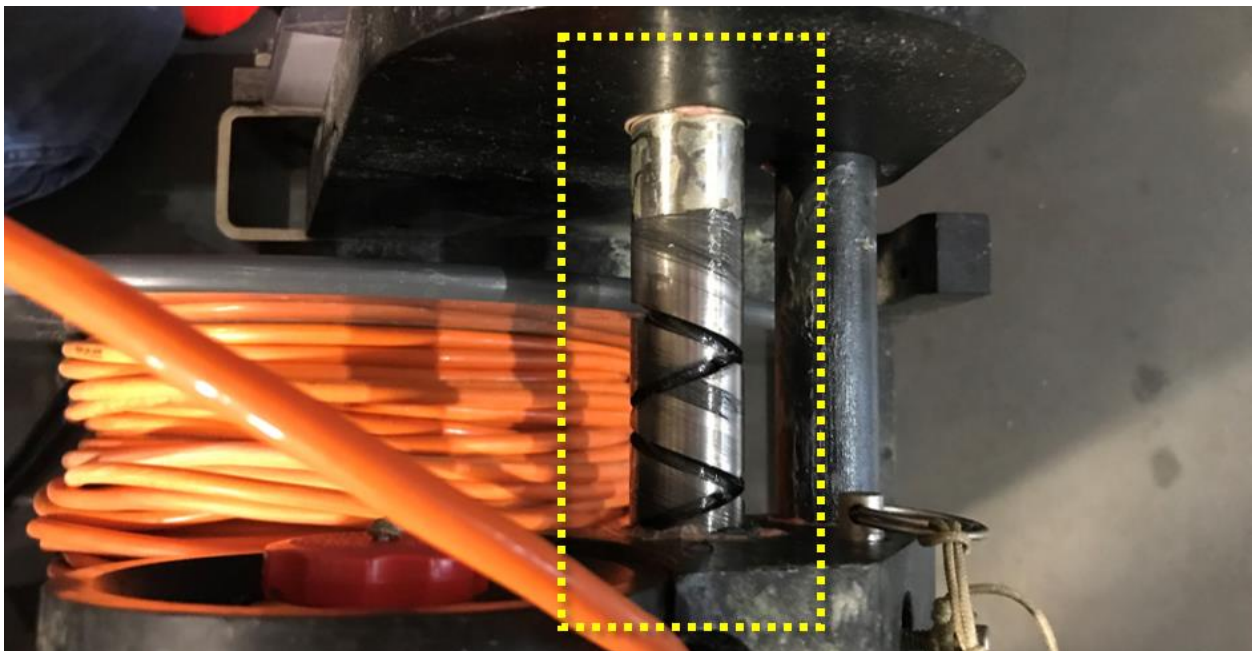

Figure 26. Properly Greased Winch Axle (Axle Rod)
2. The winch axle (axle rod) requires lubrication with Krytox 205 annually. Figure 26 is an example of a properly greased axle. Maintaining lubrication on this component ensures the equipment lifespan.